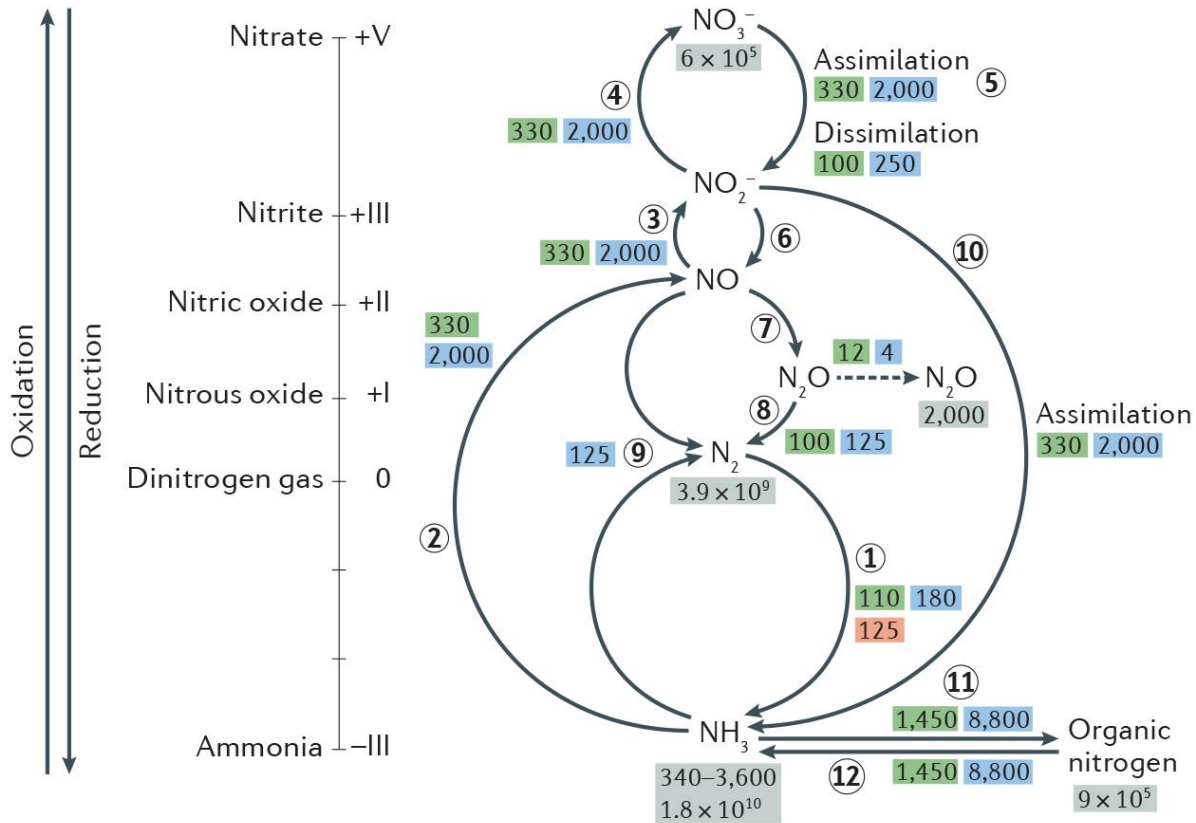

**Figure 1.** *The most important N transformations and losses after application of animal manure to soil.*
**Fig. 1.** Nitrate concentration in soil. For each experiment, divided for depth classes, the box plot shows minimum and maximum values sampled (bars), the first and the third quartile (boxes), the median (lines inside boxes) and the average (crosses);  $n = 248$ .